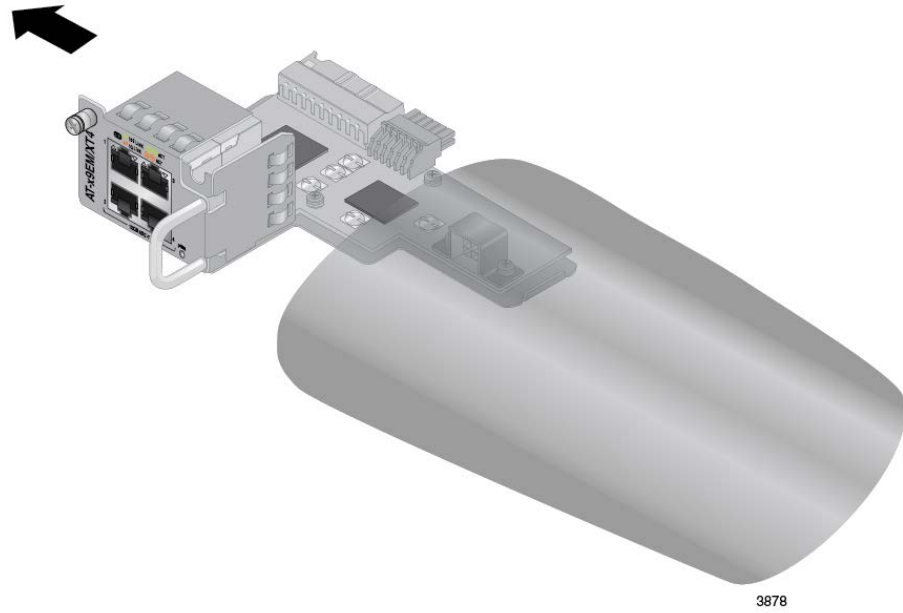

Figure 32. Removing the Card from the Anti-static Bag
7. Remove the AT-StackQS or AT-x9EM/XT4 Card from the anti-static bag. Refer to Figure 32 on page 82.